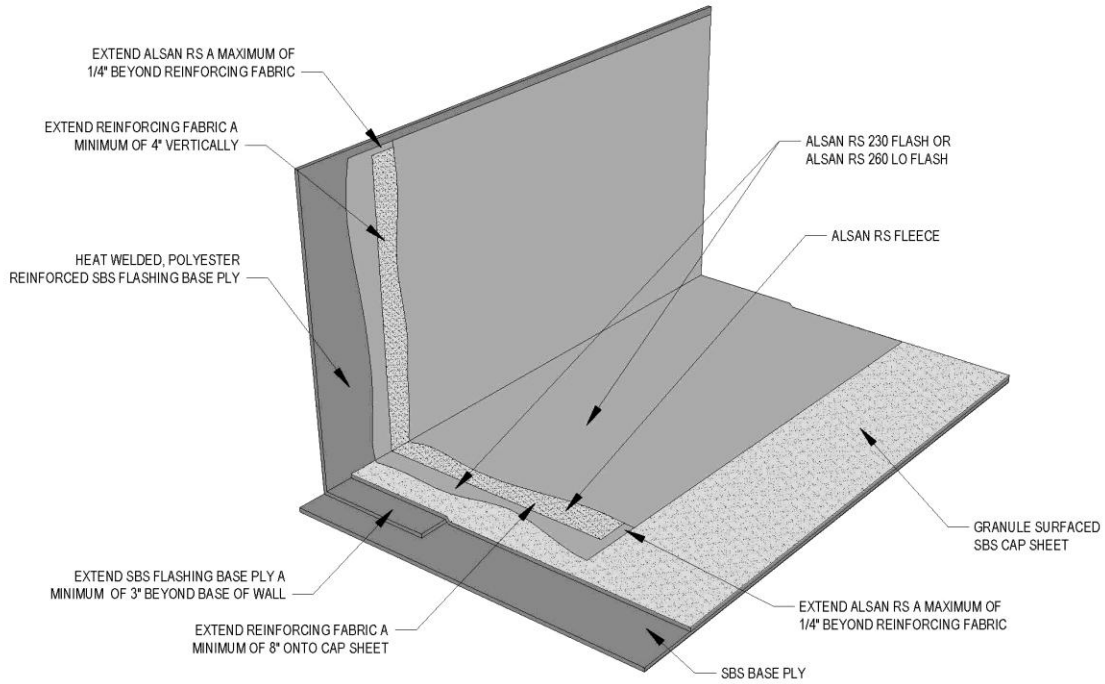

Figure 4.1a ALSAN® RS Wall/Curb Flashing with SBS Flashing Base Ply on Granular Surfaced Cap Sheet Without Cant
- SOPREMA® offers ALSAN® RS 230 FLASH or ALSAN® RS 260 LO FLASH liquid-applied, reinforced flashing systems. These systems are recommended for SBS modified bitumen membranes to form a waterproof seal at roof transitions, terminations and penetrations. Refer to Figures 4.1a through 4.1p.